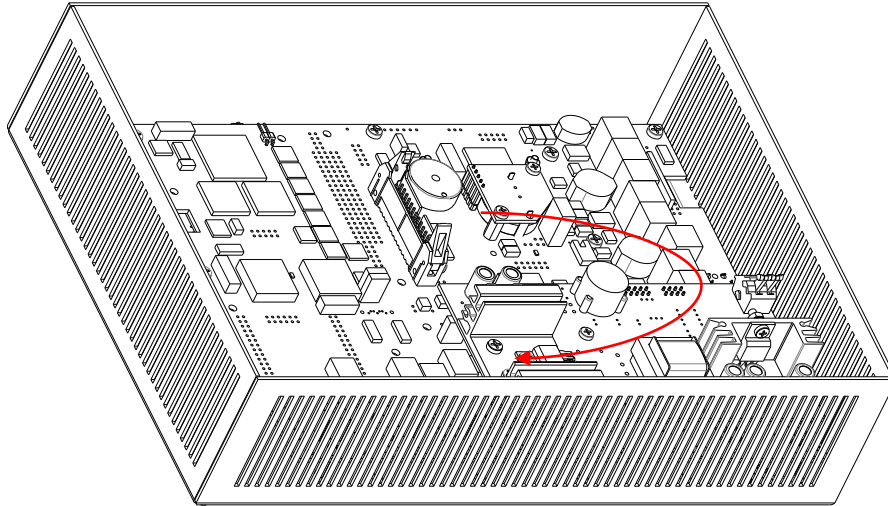

Fig. 5 - Leading of 26-wire cable
2. Panel and back cover must to fit together. Be aware of situation when cables getting stuck between parts of computer. Make sure if 26-wire cable is led thru middle of cooler, see Fig. 5.